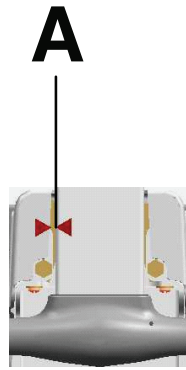

Figure 5 – Siderail arrow pointers
3. Pull on the siderail to make sure that the siderail is latched and the arrow pointers (A) are aligned (Figure 5).